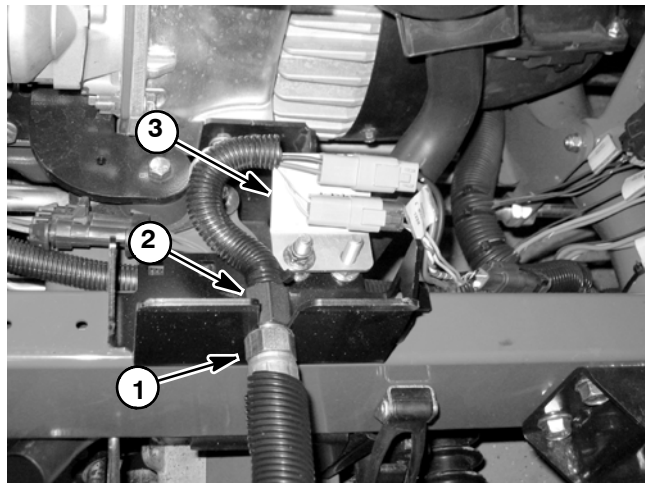

Figure 92
8. If cutting reel motor is to be removed from machine, disconnect reel motor cable from machine wire harness (Figs. 92 and 93):
- B. Disconnect two (2) motor cable connectors from machine wire harness.